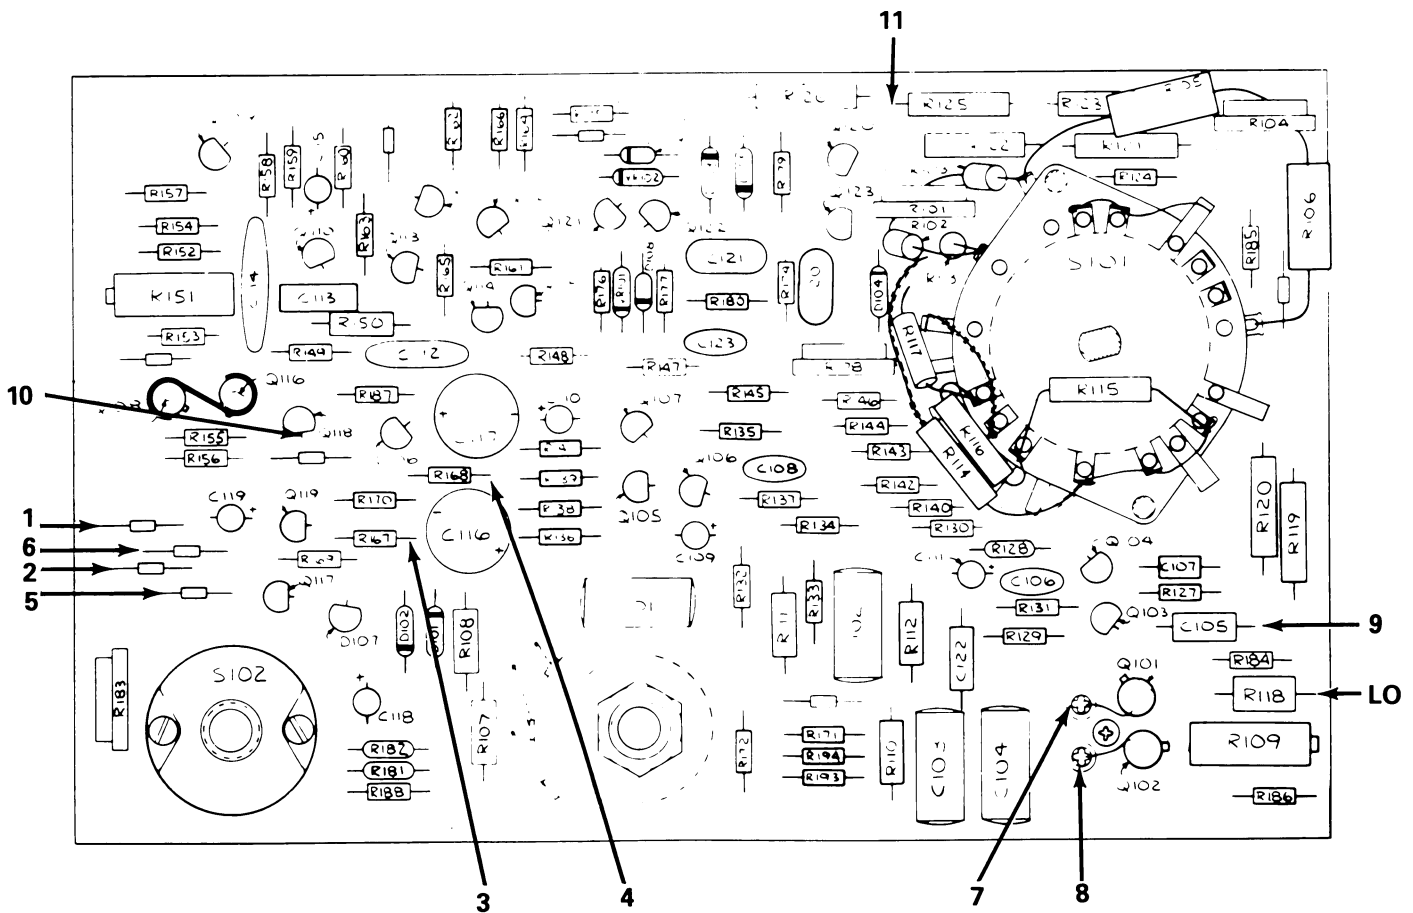

Figure 4-1. Model 155 Test Points
Figure 4-1 shows the location of internal test points used in calibrating the Model 155. Table 4-2 lists Model 155 internal controls.
3. If the Model 155 is inoperative, that is, if the meter pins, check the voltage at the test points given in Table 4-3 to the values indicated. If these voltages are found satisfactory, check the multivibrator (see paragraph 4.2.3). If all the above checks are satisfactory, localize the trouble to the AC or DC section of the amplifier by shorting the demodulator test point (test point 10, Figure 4-1) to low
Refer to Figure 4-1.
Connect the Model 5315A frequency counter between the multivibrator test point (point 7 and 8, Figure 4-1). Adjust the multivibrator frequency set potentiometer, R178, for a reading of 220Hz ±3Hz.